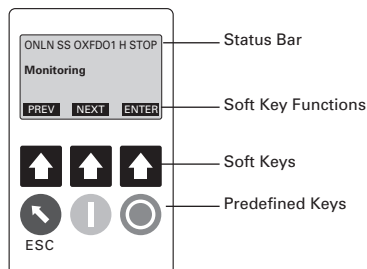

Figure 15: Digital Interface Module (DIM) — Parameter Edit Mode
2. The PREV and NEXT soft keys (**Figure 15**) scroll from menu to menu (left and right).